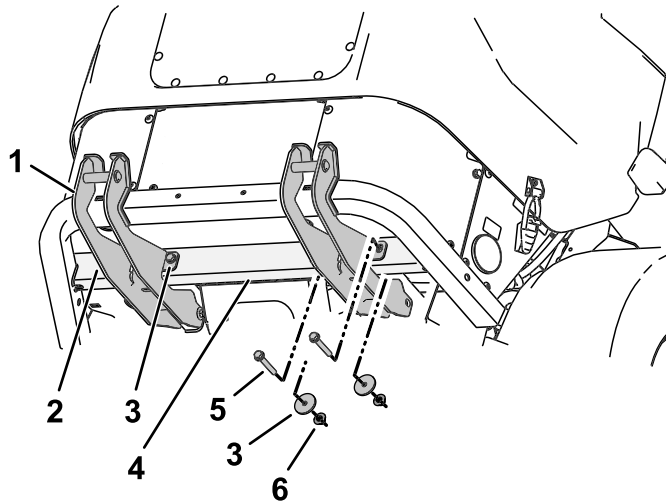

Figure 10
1. Loosely install a lower mount bracket on the left and right side of the rear bumper cross tube (Figure 10).
2. Align the mounting holes and loosely install the brackets using 2 bolts (3/8 x 2-1/2 inches), 2 thick washers, and 2 locknuts (3/8 inch) as shown in Figure 10.
Note: You do not install a thick washer on the left, outer side (Figure 10).